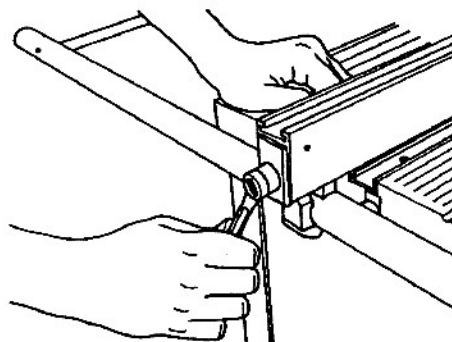

Fig. C-7
a. If too **tight**, use a 1/2" socket and ratchet wrench to loosen the lock nut. Loosen the lock nut 1/8 turn or less and re-check the fence clamp. See Fig. C-7.
b. If too **loose**, use a 1/2" socket and ratchet wrench to tighten the lock nut. Tighten the lock nut 1/8 turn or less and re-check the fence clamp. See Fig. C-7.